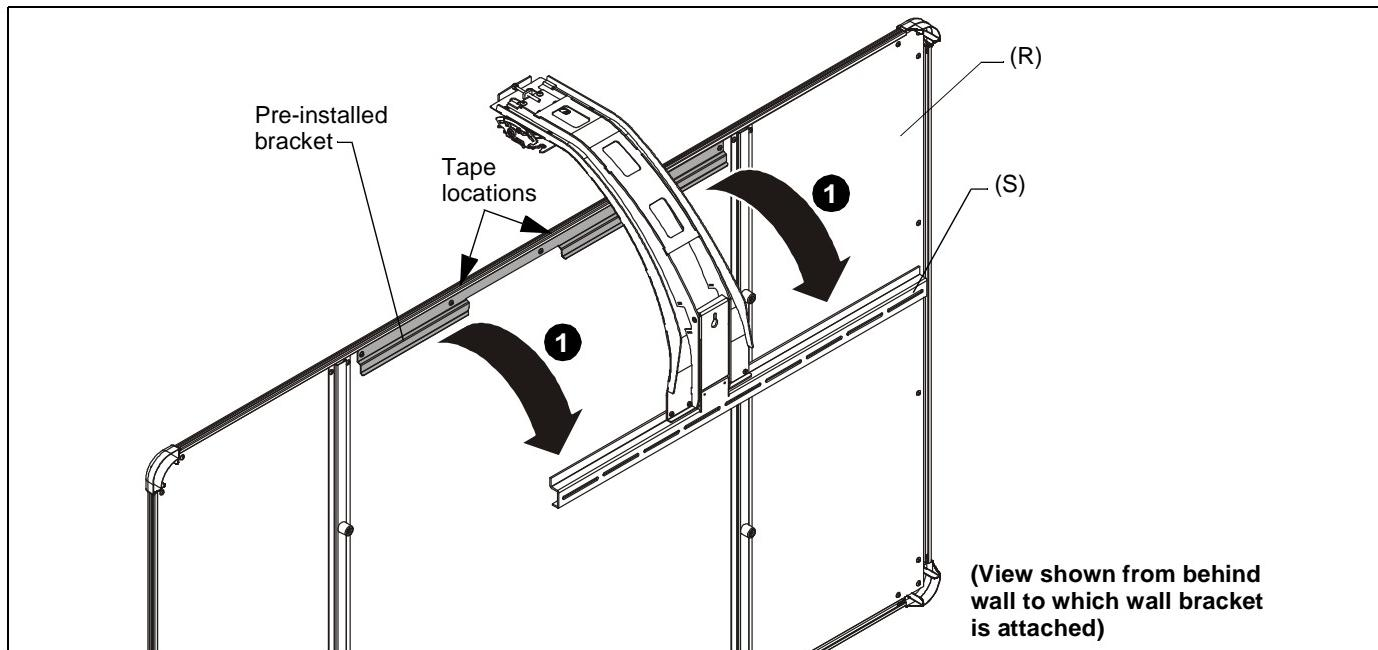

Figure 5
1. Hang screen assembly (R) onto wall bracket (S) using pre-installed bracket on back of screen assembly. (See Figure 5)